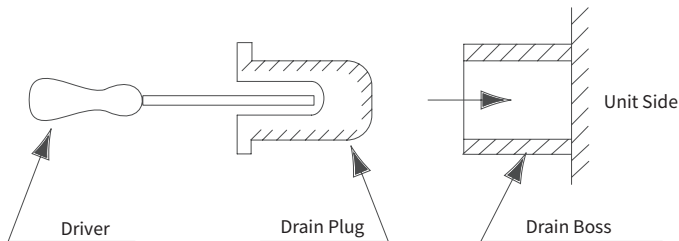

Fig.6.3 Inserting Drain Plug
- (d) Insert the drain plug into the right-side drain boss by using a driver as shown in Fig.6.3.